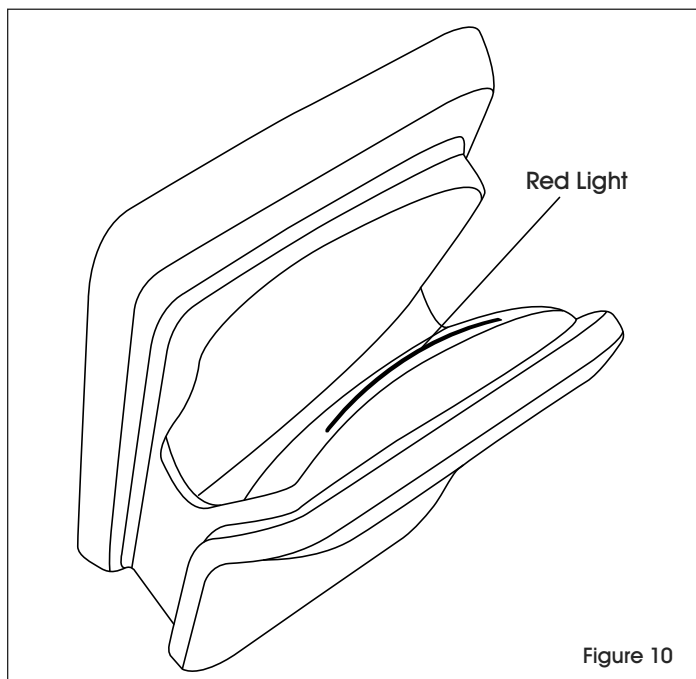

Figure 10
1. When water tank is full a red light will turn on. (See Figure 10)